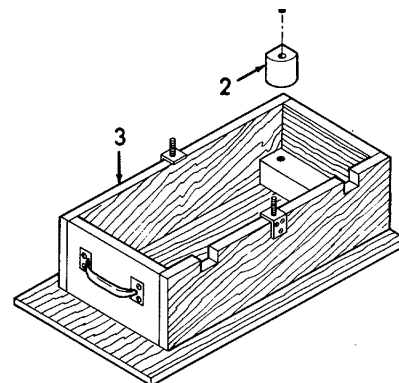

Figure 5-10. Rubber Bumpers, Replacement.
- (2) Replacement of the rubber bumpers as follows (refer to Figure 5-10):
- (a) Remove screw (1) and rubber bumper (2) from tray (3).
- (b) Install bumper (2) and screw (1).